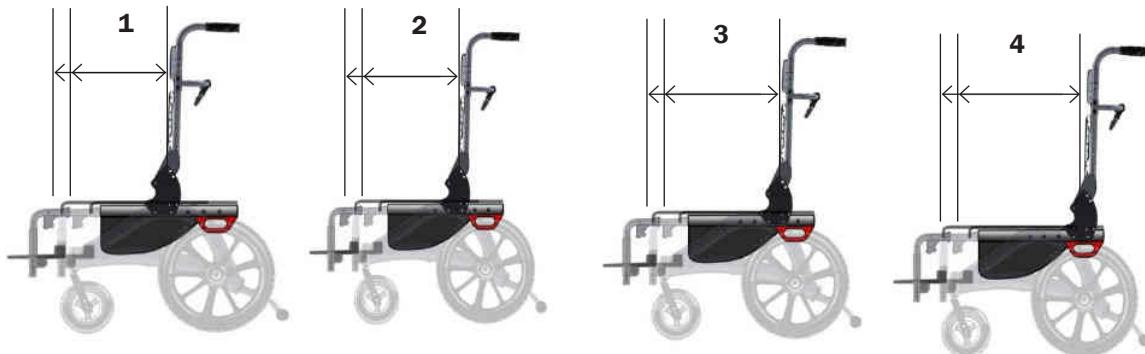

Fig. 26
4. Follow the Cane Position seat depth adjustment chart for the seat depth position range. Fig. 26
**Note:** Weight capacity depends upon position of back canes as indicated in Fig. 26 & 30. Please refer to the Serial Number Label in Fig. 31.